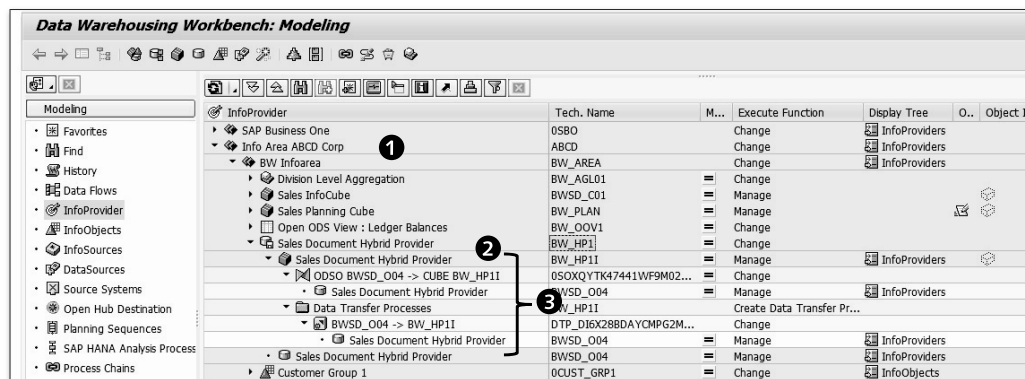

Figure 6.65 Created HybridProvider
Click on the ACTIVATE icon to activate the HybridProvider. You can view the created HybridProvider using Transaction RSA1, as shown in Figure 6.65.
The newly created HybridProvider BW_HP1 ❷ of Figure 6.65 is shown under the InfoArea BW_INFOAREA ❶. At the time of activating HybridProvider BW_HP1, the system also generated the associated transformation and DTP between DSO BWSD_O04 and InfoCube BW_HP1I ❸. The HybridProvider with direct access can be created following a similar procedure.